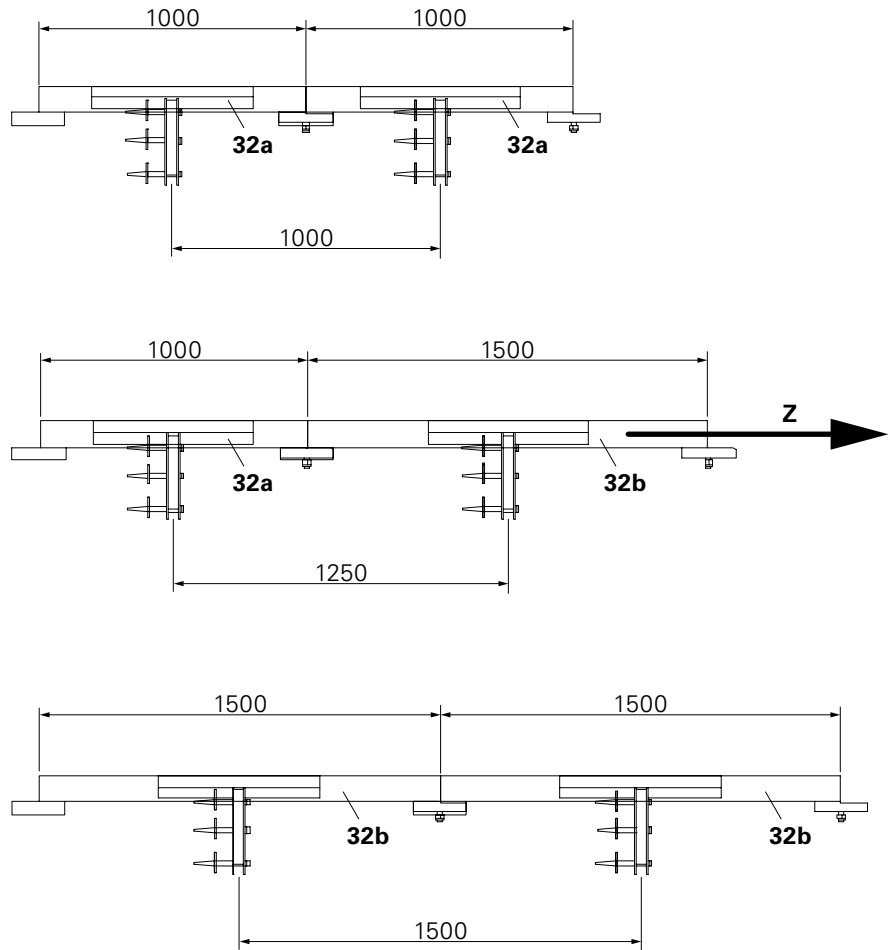

Fig. B3.01
By combining the Rails 100 (32a) and 150 (32b), an anchor configuration (b2) of 1.25 m can be realised. In this case, it is recommended that the Rail 150 (32b) is always arranged in front of the Rail 100 (32a) in the pulling direction (Z). (Fig. B3.01)